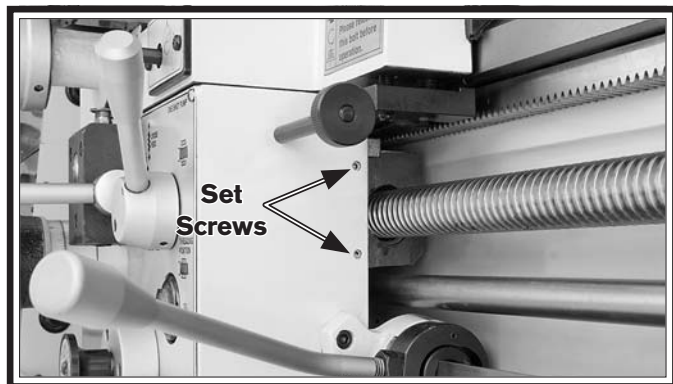

Figure 119. Half nut gib adjustment.
2. Turn the two set screws (see **Figure 119**) clockwise to tighten the half nut and counterclockwise to loosen it.